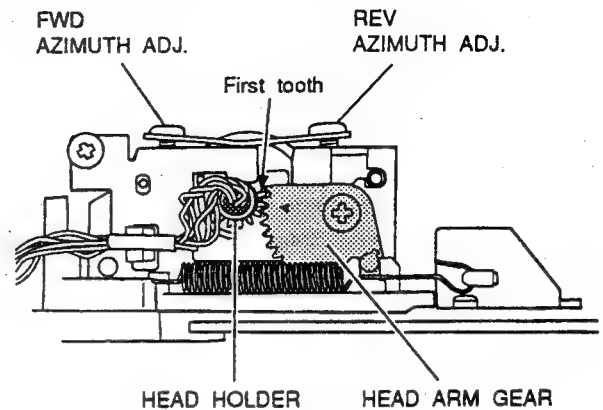

Fig. 3-11
If the removal of the HEAD HOLDER is necessary, align the first tooth of the HEAD HOLDER with the groove between the first and second tooth on the HEAD ARM GEAR when reassembling as shown in Fig. 3-11.
- 3) After adjustment, the AZIMUTH ADJ. screws must be paint-locked (refer to Fig. 3-11 on page 35).